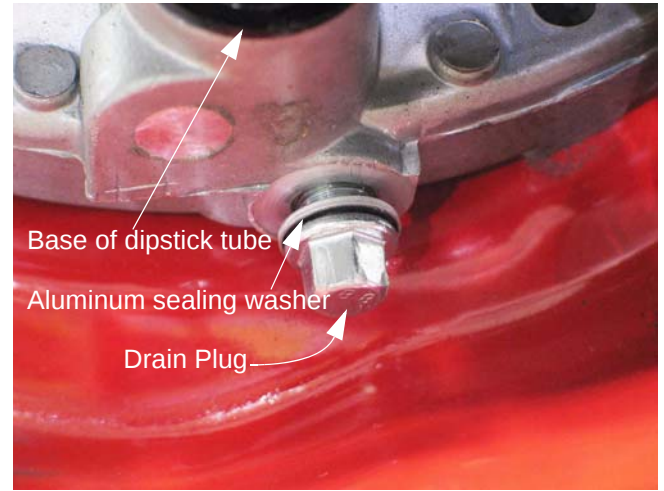

Figure 5.10
5.10. Oil can be drained by removing the drain plug located at the base of the filler tube / dipstick tube, using a 10mm wrench. See Figure 5.10.